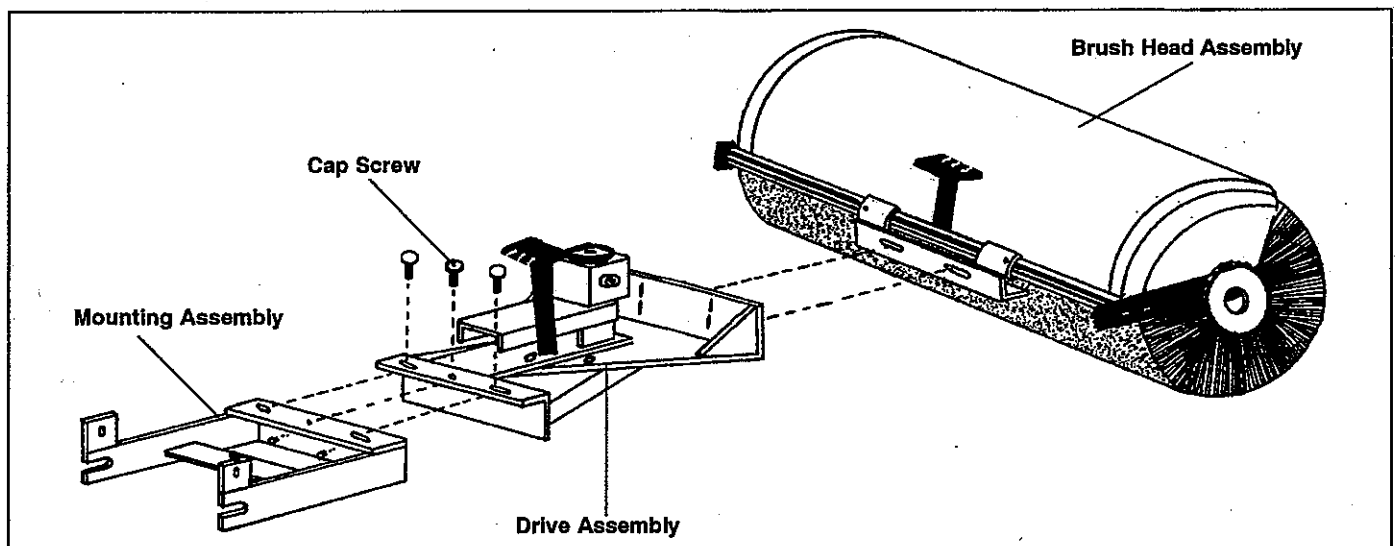

figure 1
Install the mounting assembly (figure 1) on the tractor by the following instructions enclosed with those parts. Then proceed to Drive Assembly or Brush Head Assembly if your sweeper has a mounting assembly that includes a gearbox.
1. Position the drive assembly (figure 1) in front of the mounting assembly with the gearbox up.
2. Place the rear of the drive assembly on the front of the mounting assembly. Install a 3/8-16 x 1 1/2 inch cap screw, flat washer, lock washer and nut in the center hole (figure 1), but do not tighten the hardware completely.
1. After installing the mounting and drive assemblies, position the brush head assembly (figure 1) in front of the drive assembly.